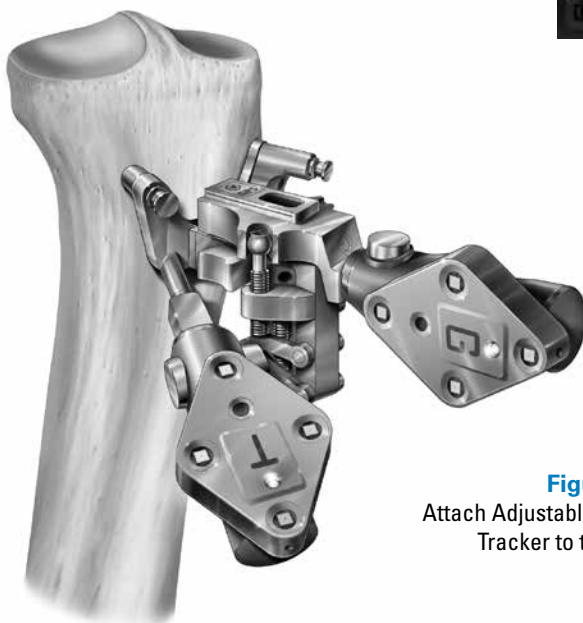

Figure 41
Attach the Adjustable Module and Guide Tracker (G) to the Tibial Base (Figure 41)
- Press button on Guide Tracker (G) and attach to Adjustable Module